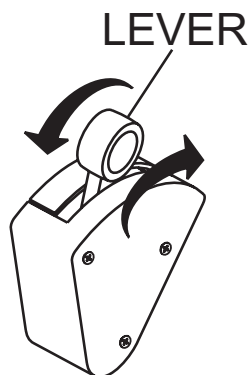

Figure 4. Safety Switch Lever
1. To test the movement of the safety switch lever (Figure 4), make sure the lever moves back and forth freely.